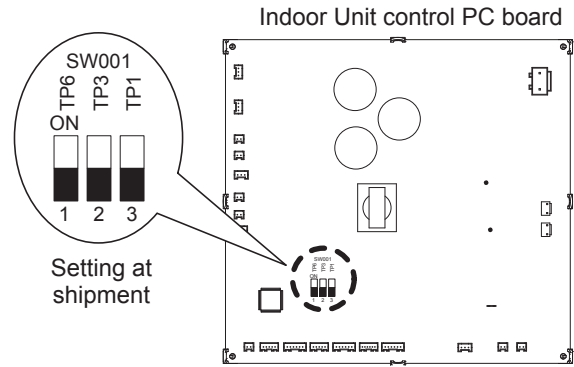

Fig. 1-12-2-1-3
- (1) Refer to Tables 1-12-2-1-3, 1-12-2-1-4 and Fig. 1-12-2-1-4 for details on the relationship between the value of item code “5d” and the external static pressure.
- (2) When set in group control (connecting multiple indoor units with one timer remote controller), set each indoor unit to item code “5d”.
Refer to Fig. 1-12-2-1-4 for the external static pressure setting range.
2. Open the lid of the electrical component box and confirm the location where the Select switch on the indoor unit control PCB is placed. (Fig. 1-12-2-1-3)
4. Press the / buttons for the time to amend the values for the set data. Refer to Table 1-12-2-1-3 and Fig. 1-12-2-1-4 and select a value “ **0006** ”, “ **0003** ” or “ **0001** ”.